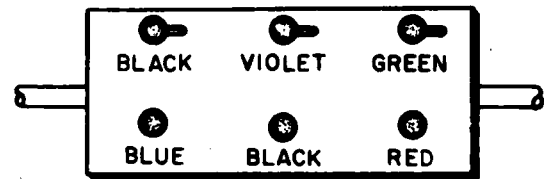

Figure 5A.--Fixed capacitor.
● Refer to figure 9-14 in your textbook and figure 5A in this course for items 5-41 thru 5-43.
5-41. What is the value in micro-microfarads of the capacitor shown in figure 5A?
5-42. What is the minimum and maximum capacitance, in micromicrofarads, allowed for the capacitor shown in figure 5A?
5-43. What dielectric is used in the capacitor shown in figure 5A?